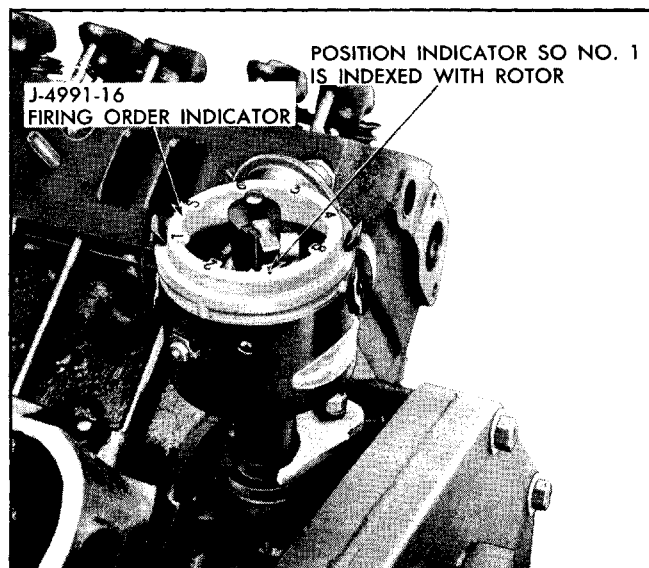

Fig. 6-77 Firing Order Indicator in Place on Distributor
a. With distributor rotor still pointing to firing position for number one cylinder, clamp gauge J-4991-16 on distributor with the number one on the indicator opposite the rotor arm (Fig. 6-77).